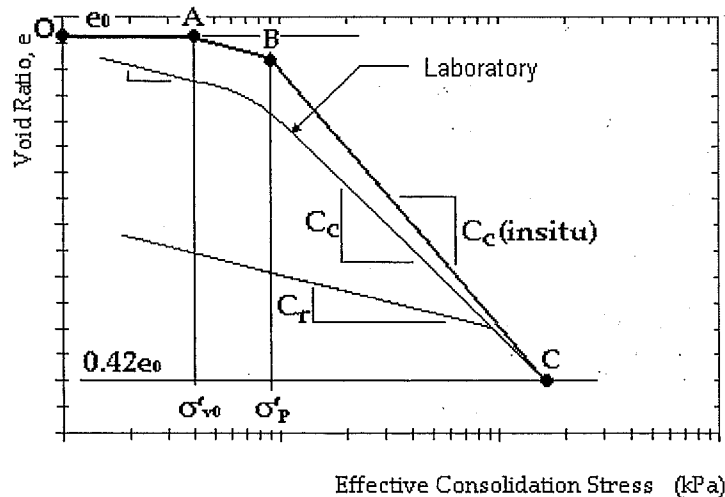

Figure Q3
2. The Unconfined Compression (UC) Test is used to determine the Undrained Cohesion,  $c_u$ , of a saturated clay soil.
3. Figure Q3 shows a typical  $e$ - $\log(p)$  curve obtained during the 1-D Consolidation Test. The laboratory curve is used to construct the 'ideal'  $e$ - $\log(p)$  curve (OABC) that represents in-situ consolidation settlements.